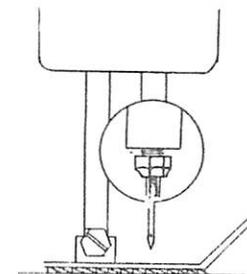

Figure No. 4
11. Insert new needle into needle bar as far as it will go, with long groove facing exactly outside of machine. The long groove will enter into bar. Lock needle securely with wrench provided with machine. See Figure No. 4.